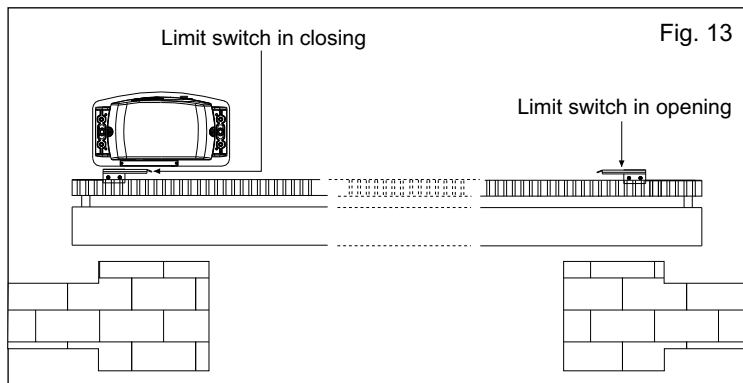

Fig. 13
7.1. In order to install and adjust the limit switch in opening, follow the below mentioned instructions (Fig. 13):
7.2. In order to install and adjust the limit switch in closing, follow the below mentioned instructions (Fig. 13):